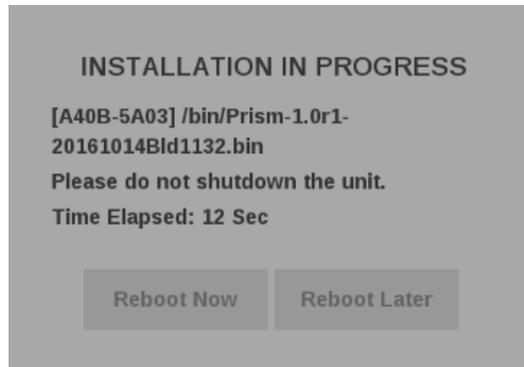

Figure 74: Upgrade Installation In-Process message box
7. While the upgrade is in process, the message box, as shown in Figure 74, appears stating that the firmware installation is in progress.